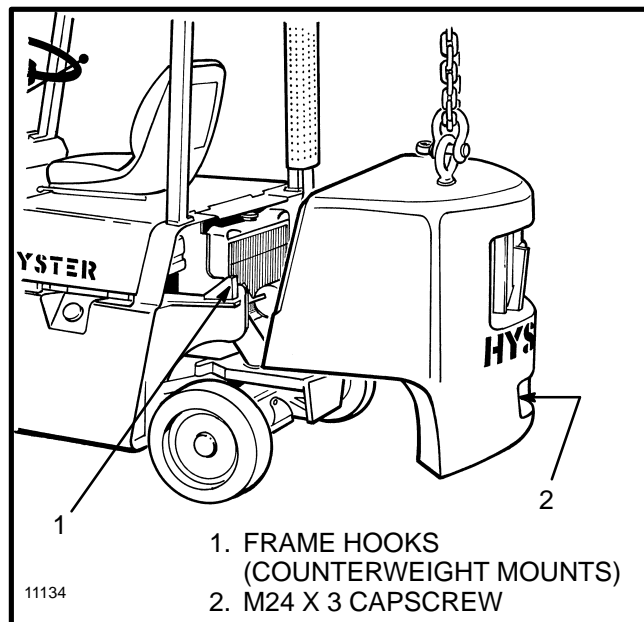

FIGURE 2. REMOVAL OF THE COUNTERWEIGHT
3. See FIGURE 2. Install a lifting eye in the lifting hole of the counterweight. Connect a crane to the lifting eye and raise the crane until it holds part of the weight of the counterweight. Remove the capscrew that holds the counterweight to the frame. Use the crane to lift the counterweight from the lift truck.